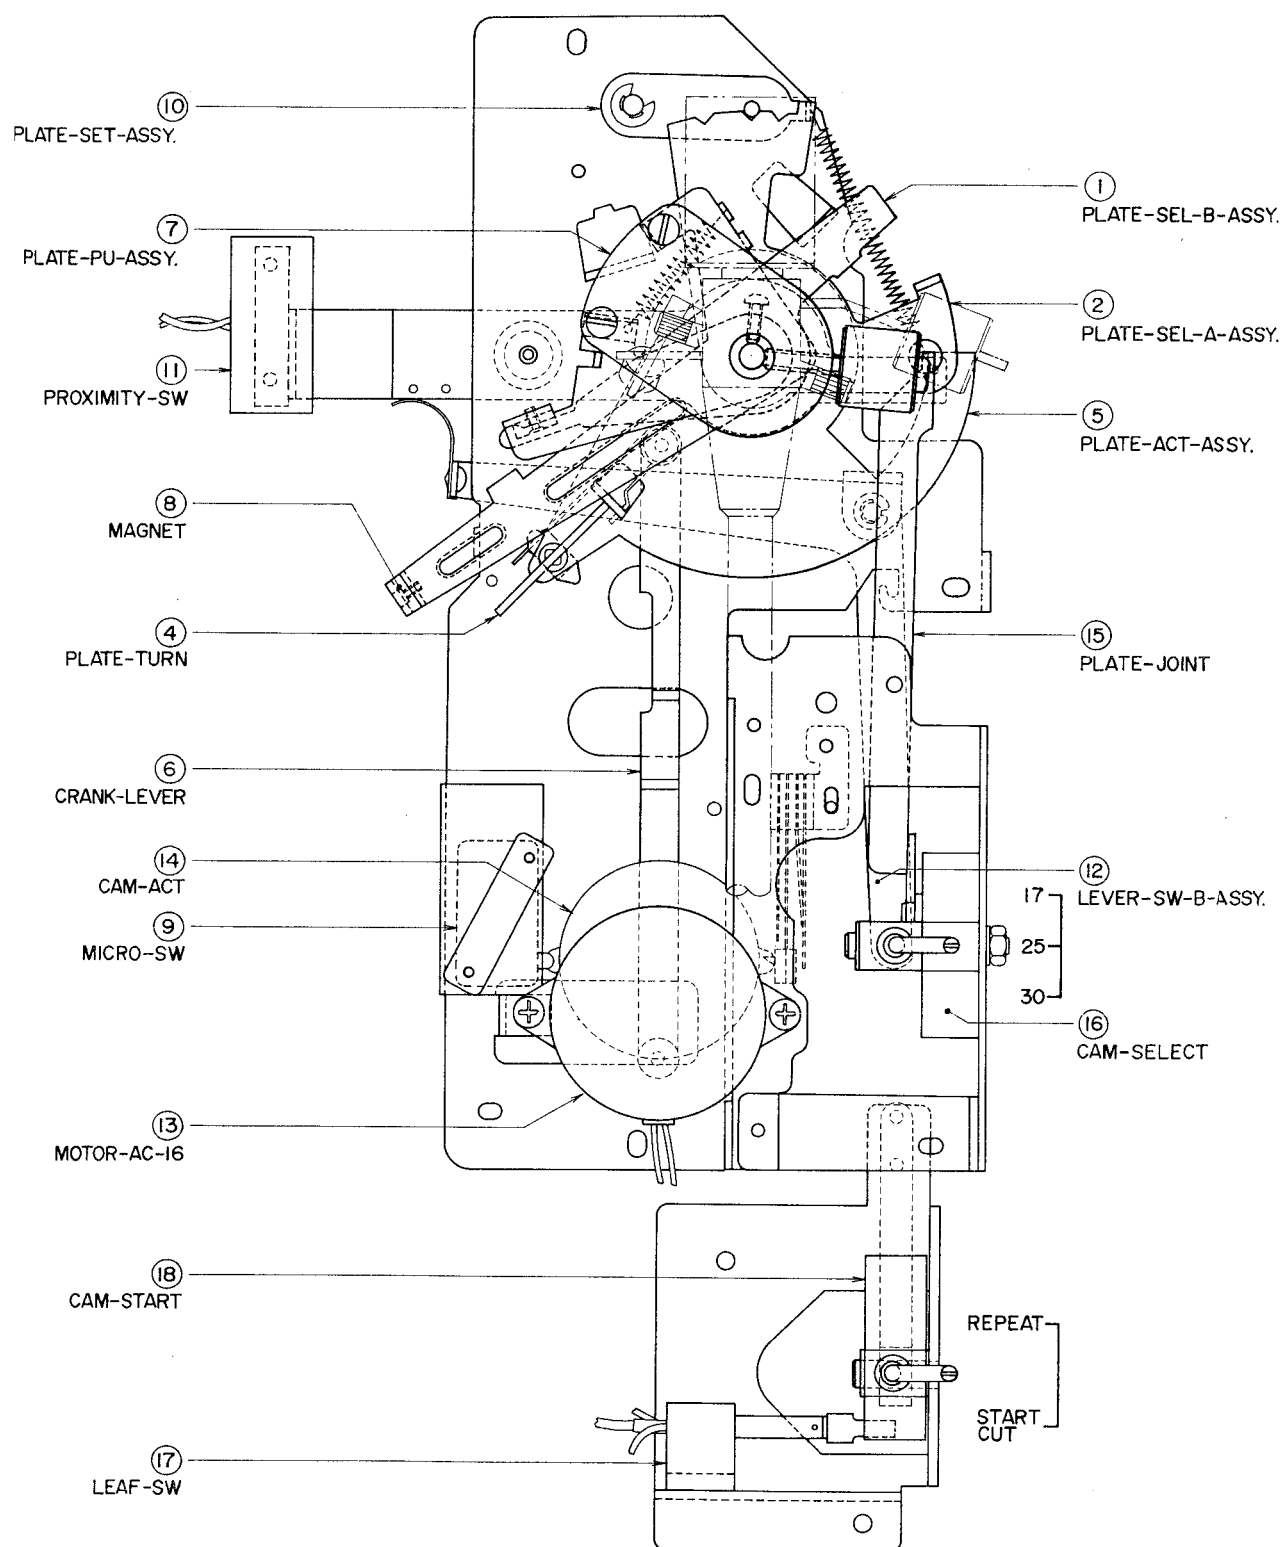

Fig. 2 MAIN PARTS OF AUTOMATIC MECHANISM
The automatic mechanism of this machine is as shown in Fig. 2. Confirm whether the size of your record is 30 cm, 25 cm, or 17 cm and set CAM-SELECT (16) to corresponding position. This CAM-SELECT (16) moves PLATE-SEL-A-ASSY (2) through PLATE JOINT (15) and the pick up arm is moved outward and stops at the outer circumference of the record. At the same time, SW-PROXIMITY (11) is moved through LEVER-SW-B-ASSY (12) and this becomes the perception equipment for determining the end of record performance.